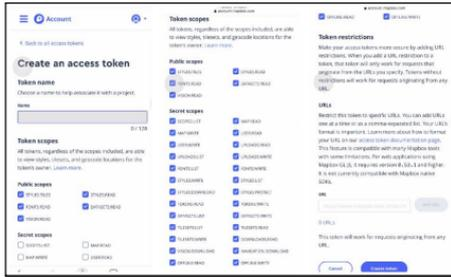

Figure4
2.5 Enter token name and select application scopes, then click on “create token” .(See Figure 4)